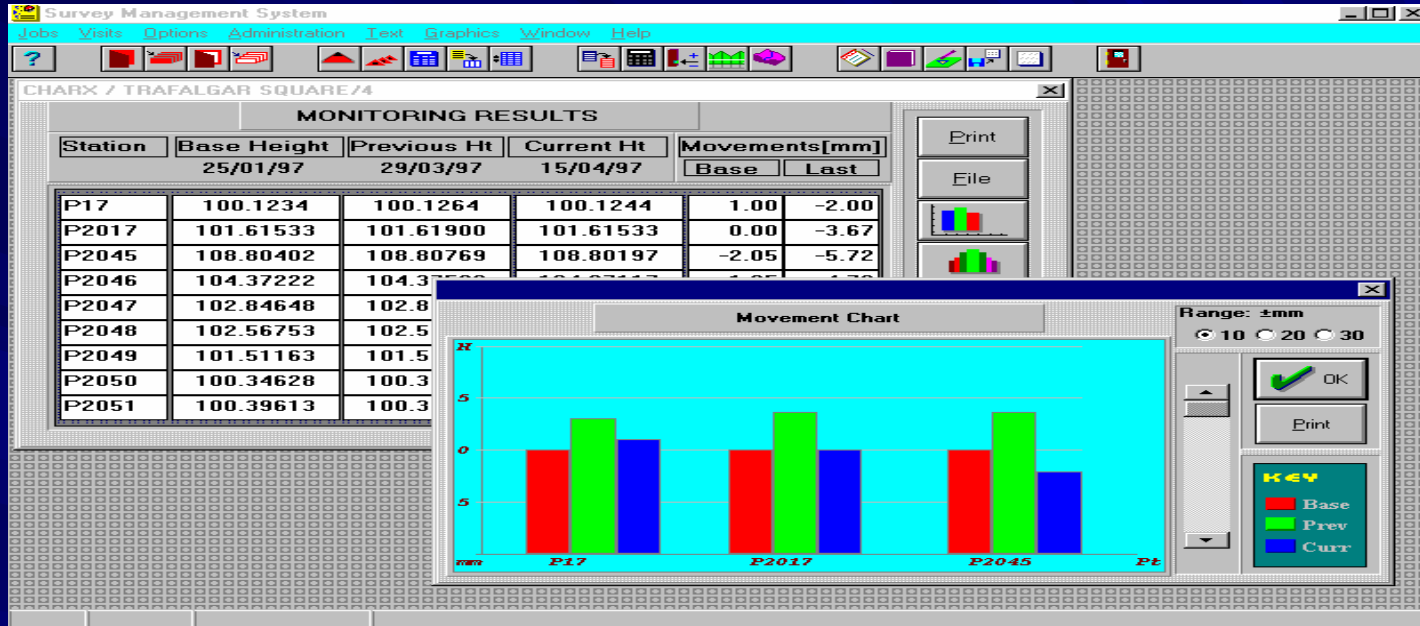

Fig. 7-1
- Results are instantly available upon completion of field activity, Fig. 7-1.